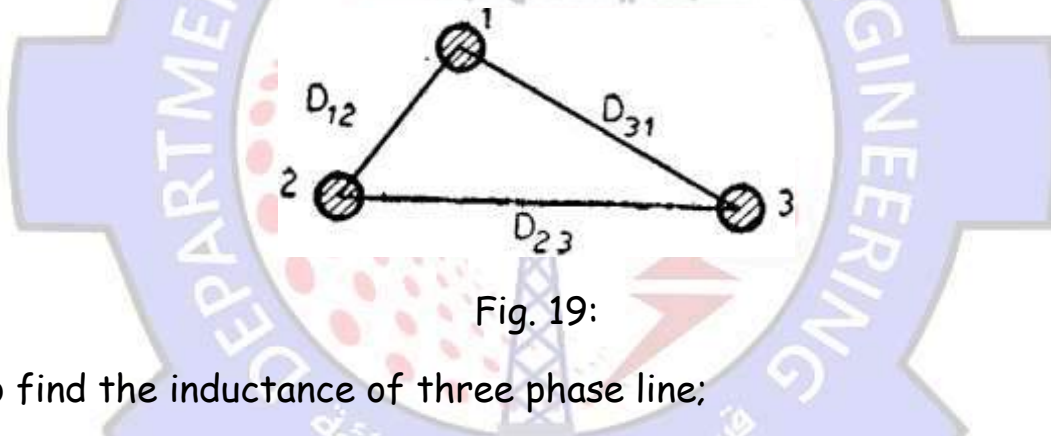

Fig. 19:
- However, the transposed conductors are spaced unsymmetrical as shown in figure 19.